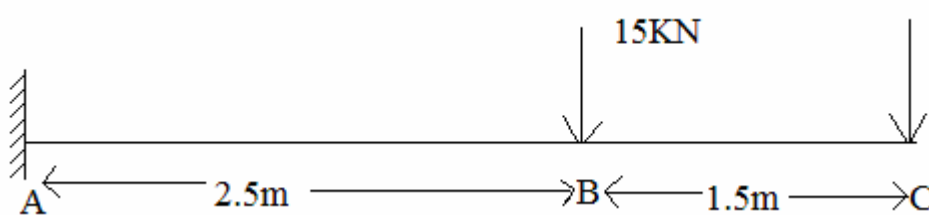

Fig.5
b) Determine the slope and deflection at the free end of a cantilever beam as shown in Fig.5 by moment area method. Take $EI=8000\text{KN}\cdot\text{m}^2$.